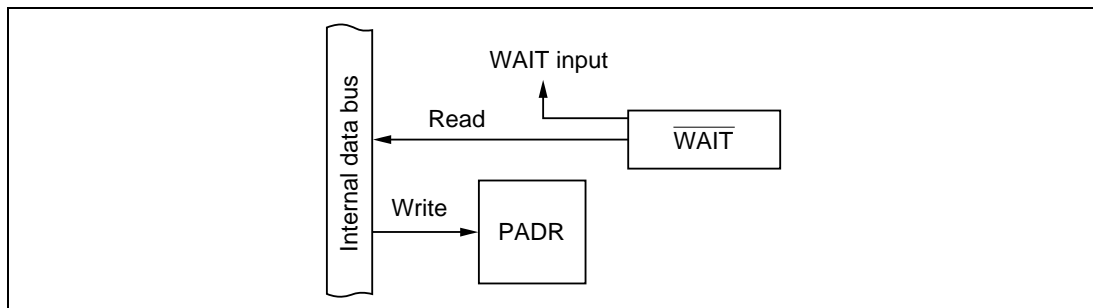

Figure 10-67 $\overline{\text{WAIT}}$ Input Pin (Modes 1 to 6)
(5) **$\overline{\text{WAIT}}$ Pin (PA_4 ; Modes 1 to 6):** Figure 10-67 shows a block diagram illustrating the $\overline{\text{WAIT}}$ function. Table 10-50 indicates register read/write data. When PA_4 is used for $\overline{\text{WAIT}}$ input, the value written in the port A data register (PADR) has no effect.